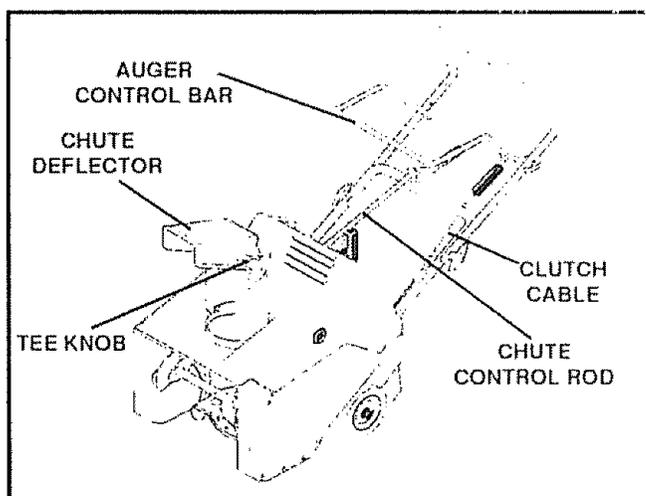

FIG. 1
Figure 1 shows the snow thrower completely assembled
- Loosen the tee knob on the chute deflector (Fig 1)
- Pull the chute deflector to one side (Fig 2B) to clear the upper handle and raise the upper handle to the operating position as shown in Fig 1 (NOTE: Hold the upper handle apart to prevent scratching the lower handle)
- Loosen tee knob on the chute deflector and move it to snow throwing position (Fig 1)